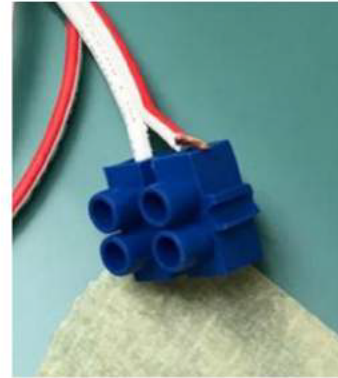

Figure 4 - Example connection between wires and connector
- Example connection is shown in figure 4.